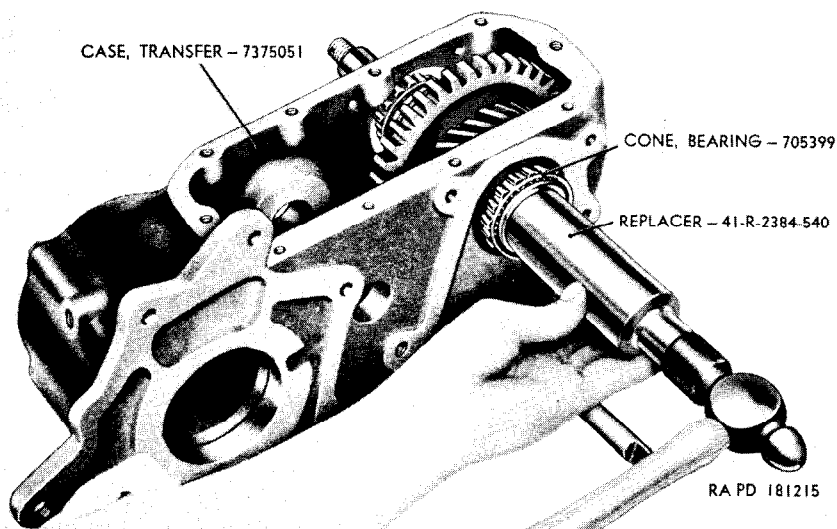

Figure 79. *Installing transfer rear axle output shaft inner bearing cone.*
d. *Install Inner Bearing Cone on Rear Axle Output Shaft*. Slide the rear axle output shaft inner bearing cone (DD, fig. 73) onto the rear axle output shaft. Using replacer 41-R-2384-540 (fig. 79), tap the bearing cone until it is snug against thrust washer snap ring.